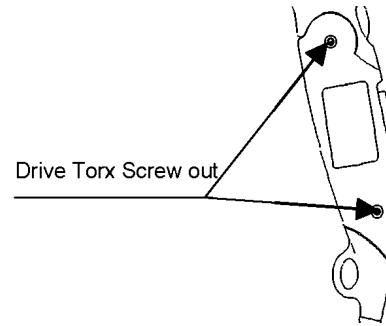

Figure 12
1. Remove the 2 torx screws from main body with a torx head driver as shown in Figure 12.